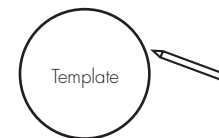

Figure 8
- Using the supplied template, trace the installation location with a pencil. You can do this by holding the template in your preferred location and tracing around it. In the case of the rectangular models (DT6.5LCR and DT8LCR) use a bubble level to square and level the template. [Figures 8 & 9]